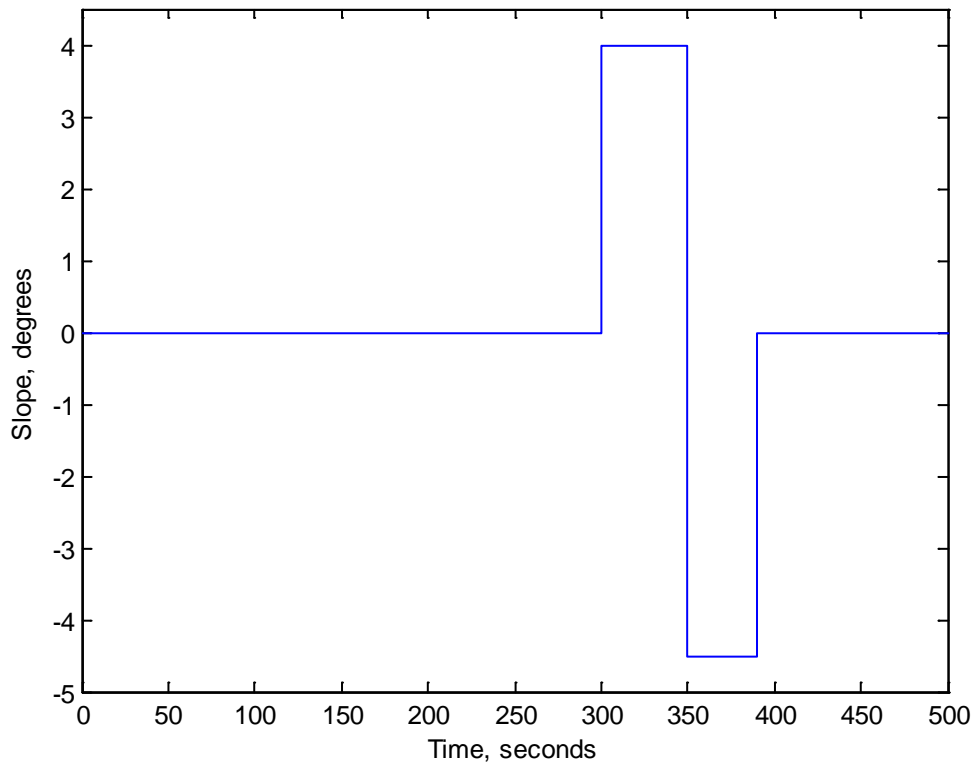

Figure 2: Road slope for the drive cycle.
- 9) Maintain 55 while going uphill, the elevation curve (road slope) is shown in Figure 2.
Figure 2 shown below is the grade of road over our drive cycle. You may notice we are driving on level ground most of the time. At a time of 300 seconds, we start up an incline of 4.0 degrees. Once we reach the top of the hill the slope is now a -4.5 degrees. We maintain the 55 mph speed down the hill and by good use of our brakes and our magic regeneration system. Once we meet the bottom of the hill we maintain a constant speed for the remainder of the drive cycle until braking at the end. The entire drive cycle has taken 500 seconds.